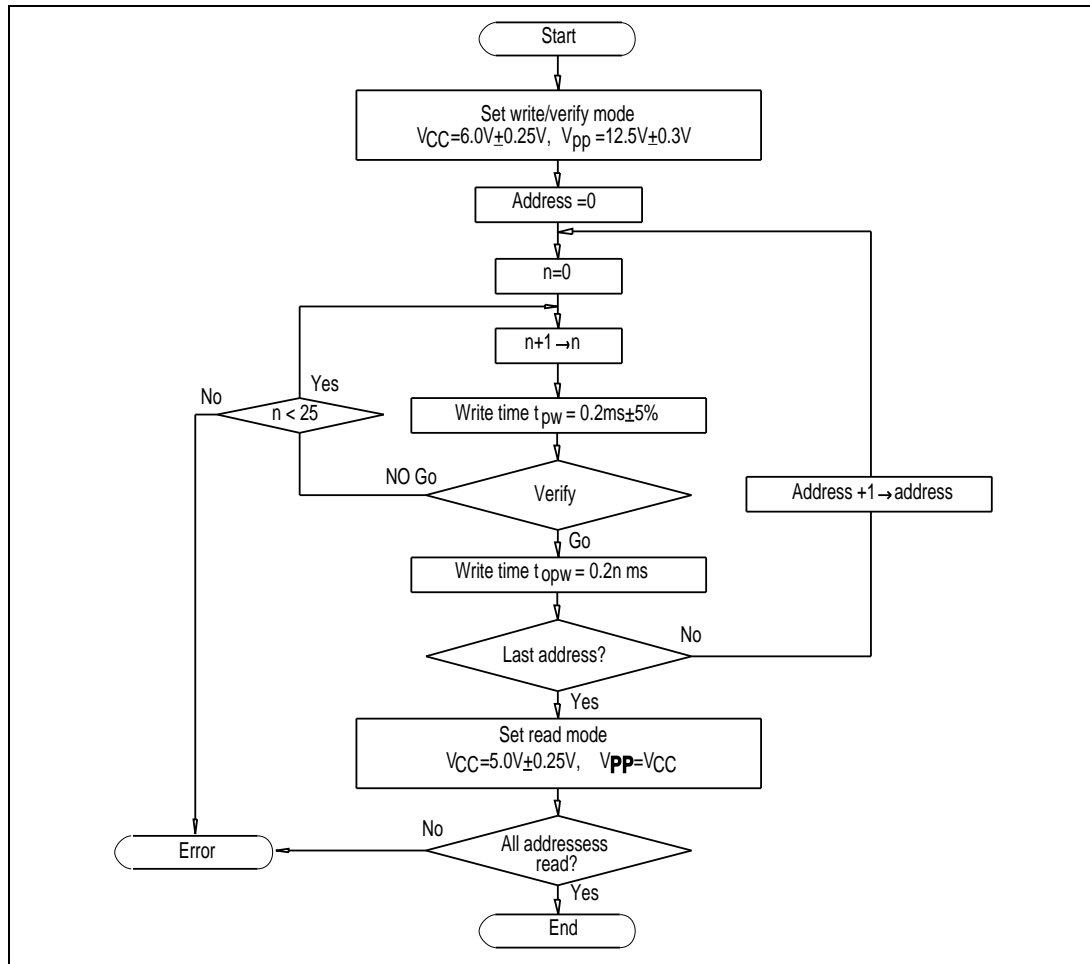

Figure 6-8 High-Speed, High-Reliability Programming Flow Chart
An efficient, high-speed, high-reliability method is available for writing and verifying the PROM data. This method achieves high speed without voltage stress on the device and without lowering the reliability of written data. The basic flow of this high-speed, high-reliability programming method is shown in figure 6-8.
2. t_{DF} is defined at the point at which the output is floating and the output level cannot be read.3. t_{OPW} is defined by the value given in figure 6-8 high-speed, high-reliability programming flow chart.